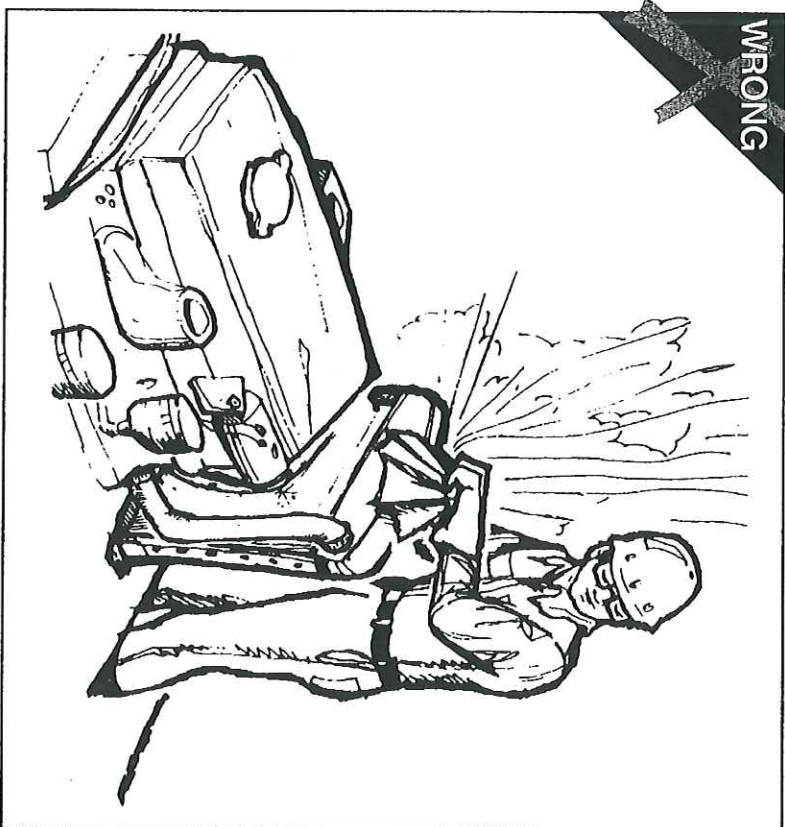

FIG. 63
- Stop the engine and let the engine and radiator cool before checking. (FIG. 63)